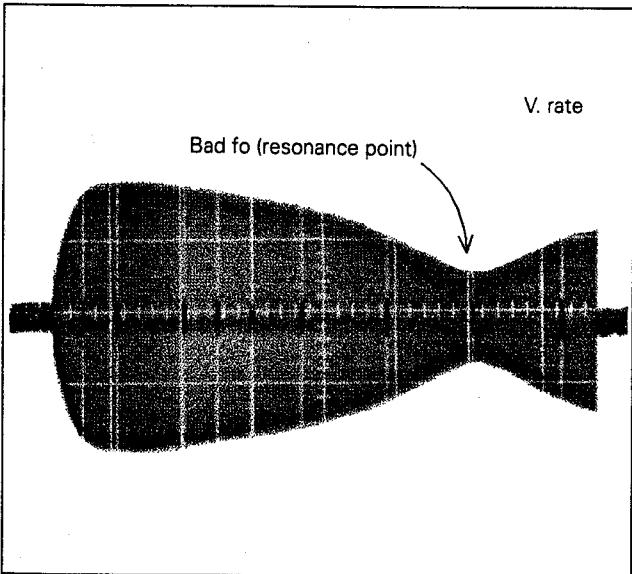

Fig. 3-9-5 Head resonance frequency response 2 (No good)
- Connect the oscilloscope to TP6 and adjust R56 and C25 so that the sweep waveform shows the characteristic as shown in Fig. 3-9-5. (WP2 head)